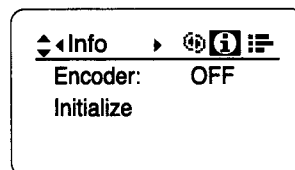

Fig7-1
2. Push the Set key and move the left or right key to display the Info screen. (Fig.7-1)